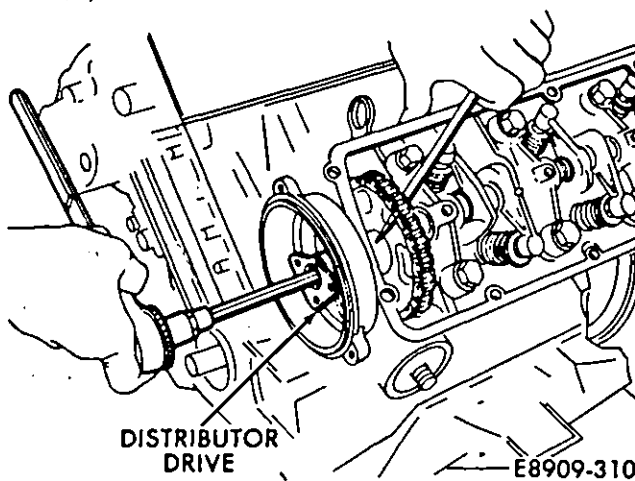
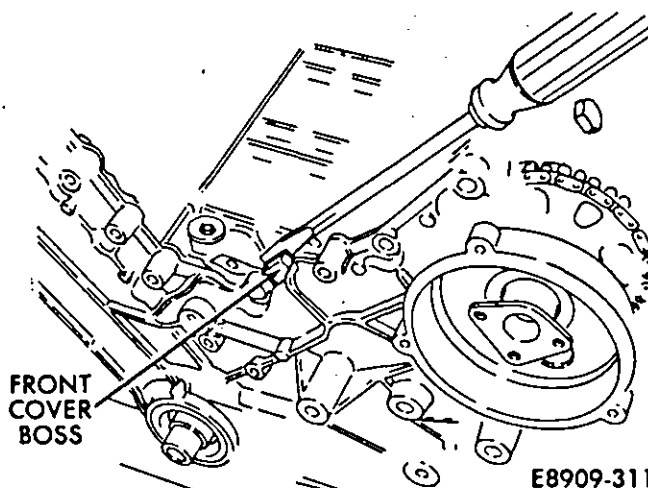

Fig. 5—Distributor Drive
Fig. 6—Cylinder Block and Front Cover Boss
(3) Pull distributor drive forward and off of the camshaft sprocket (Fig. 5).
(4) Remove the timing cover mounting bolt.
(5) Place a pry bar between the cylinder block and boss (Fig. 6) on the front cover and gently pry the cover off.
(6) Remove the gaskets.